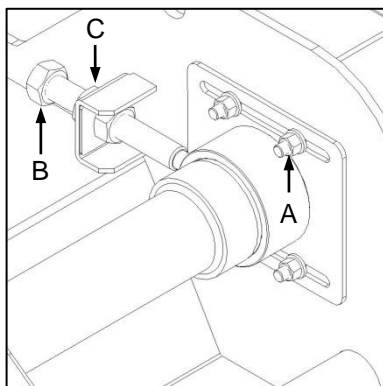
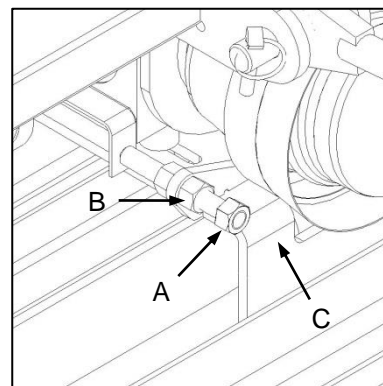

Fig. 11
Fig. 12
- ✔ Loosen 4x locking nuts on the drive tensioner base plate (Fig. 11-A) and 4x gearbox mounting bolts located below the gearbox base plate (Fig. 12-C).
- ✔ Loosen the tensioner lead-screw locknut (Fig. 11-C) and adjust the lead-screw (Fig. 11-B) to achieve the required belt tension.
- ✔ Laat skiet die 4x sluitmoere aan die dryfbandspannersteunplaat (Fig. 11-A) en die 4x ratkas-monteerboute onder die ratkassteunplaat (Fig. 12-C).
- ✔ Laat skiet die spannerleiskroefsluitmoer (Fig. 11-C) en verstel die leiskroef (Fig. 11-B) om die vereiste bandspanning te verkry.
- ✔ During the belt tensioning process, alignment of the gearbox should be maintained. Use the gearbox positioning lead-screw and locknut (Fig. 12-A and 12-B) for this purpose.
- ✔ Die belyning van die ratkas moet tydens die bandspanningsproses gehandhaaf word. Gebruik die ratkasposisioneringsleiskroef en sluitmoer (Fig. 12-A en 12-B) vir hierdie doel.